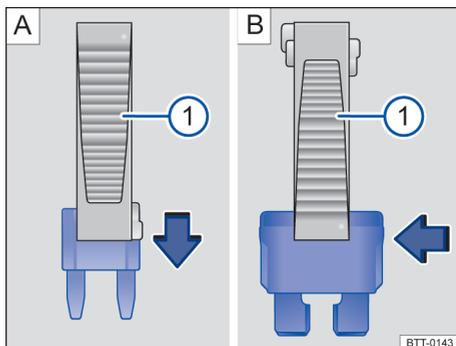

Fig. 148 Removing or fitting a fuse using the plastic pliers ①.
- If applicable, take the plastic tweezers → Fig. 148 ① out of the fuse box cover.
- For *small fuses*, push on the catch ① from above → Fig. 148 A.
- For *bigger fuses*, push the catch ① onto the fuse from the side → Fig. 148 B.
- If the fuse has blown, replace it with a new fuse of the *same* amp rating (same colour and same imprint) and *same* size → ①.
① NOTICE